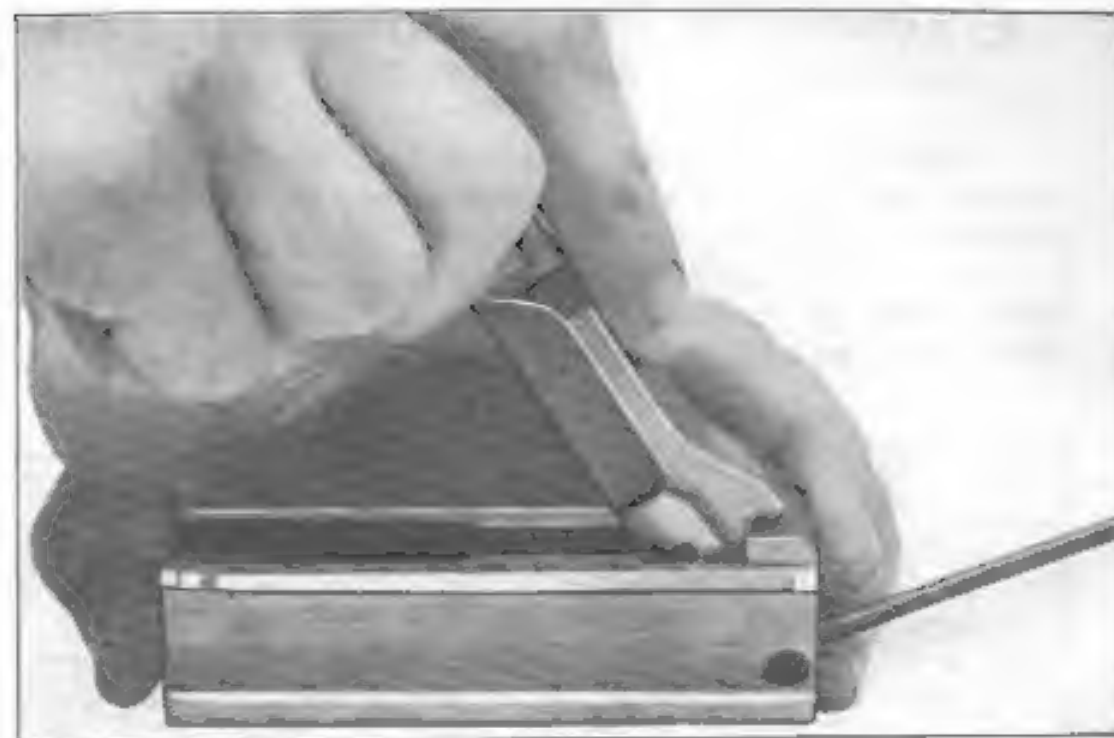

Fig. 139
- Replace the breech block in the slide, inserting the rear part obliquely in the slide (fig. 139).